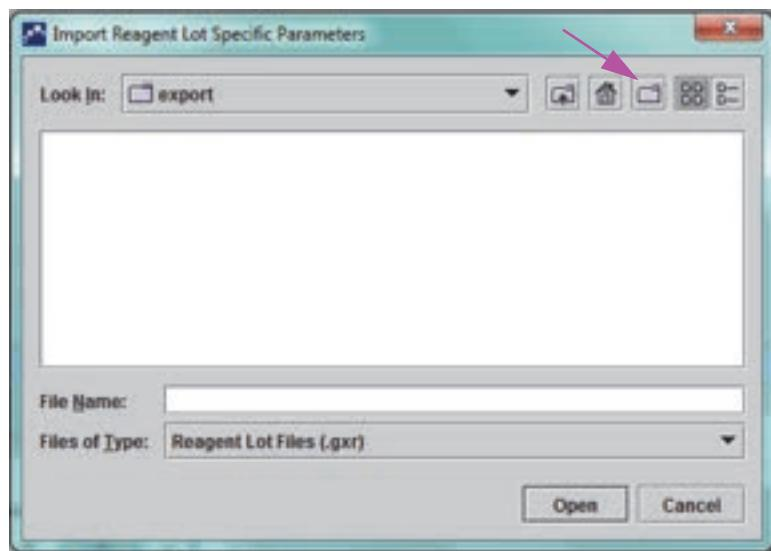

Figure 2-96. Import Reagent Lot Specific Parameters Dialog Box
4. Using the Look In: file viewing area, (see Figure 2-96) locate and select the .gxr/.nxr file obtained from Technical Support previously, and then click **Open**. The new lot number appears in the Reagent Lot Specific Parameters dialog box. Click **Close** in the Reagent Lot Specific Parameters dialog box to return to the Define Assays window.